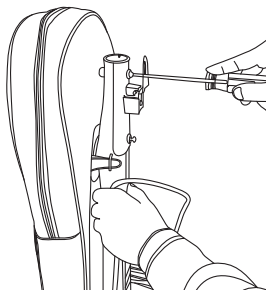

Fig. 1
1. Release the handle bracket from the handle tube by removing the two screws (Fig. 1).